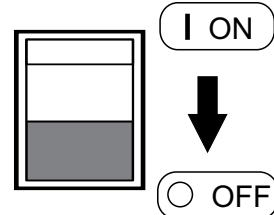

Figure 23. Idle Control Switch (OFF)
8. Place idle control switch (Figure 23) in the **OFF** position. This will allow the engine speed to run at about 3600 RPM's (**high speed**).
Placing the idle control switch in the **OFF** position (Figure 23) allows the engine to operate at a maximum speed of about 3600 RPM's.